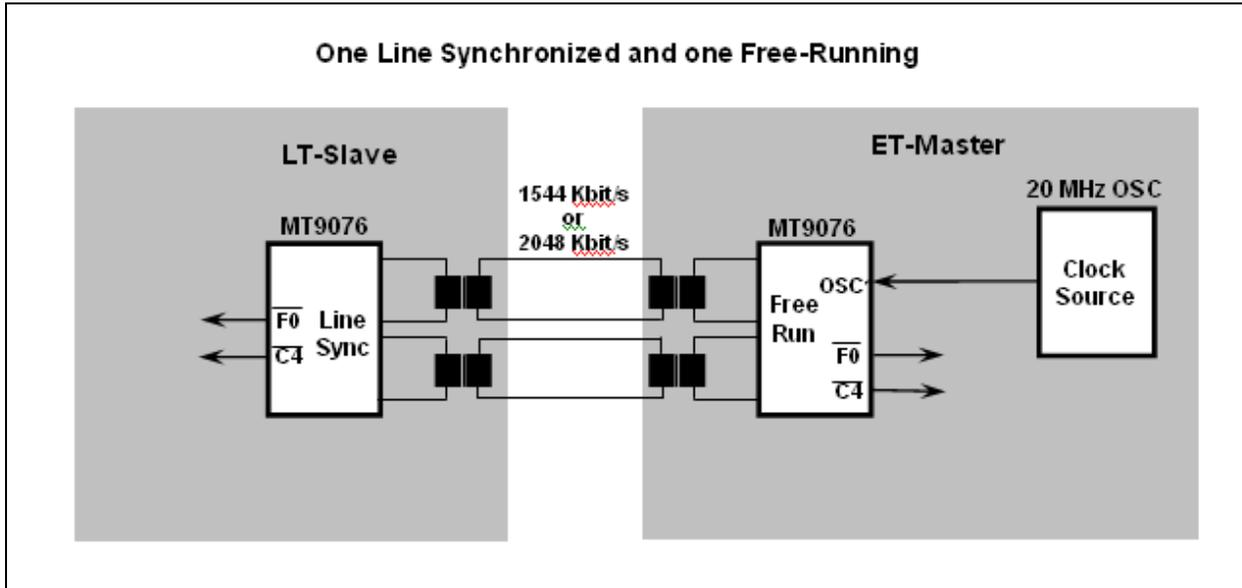

Figure 1 - Point to Point Master Slave Timing Configuration
2. Line Synchronous Mode (Figure 1 and 2)
3. Free-run Mode (Figure 1)